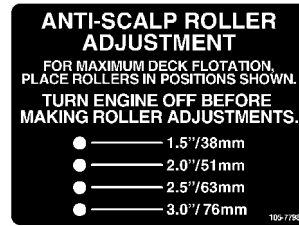

Figure 18
3. After adjusting the height-of-cut, remove the flange nut, bushing, spacer, and bolt (Figure 18).
4. Select a hole so that the outer roller is positioned to the nearest corresponding height-of-cut desired (Figure 18).
5. Install the outer roller, bushing, spacer, bolt, and nut (Figure 18).